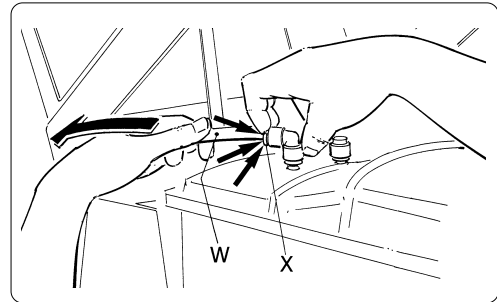

Fig. 27
- a) Empty the tank of the remaining drinks product and switch off the main switch (M).
- b) Lift the cover (G) and remove the CO₂ feeder hose (W) from its connector (X) located on the tank, pushing towards the inside of the connector lightly first of all, then pulling the hose outwards (fig. 27).